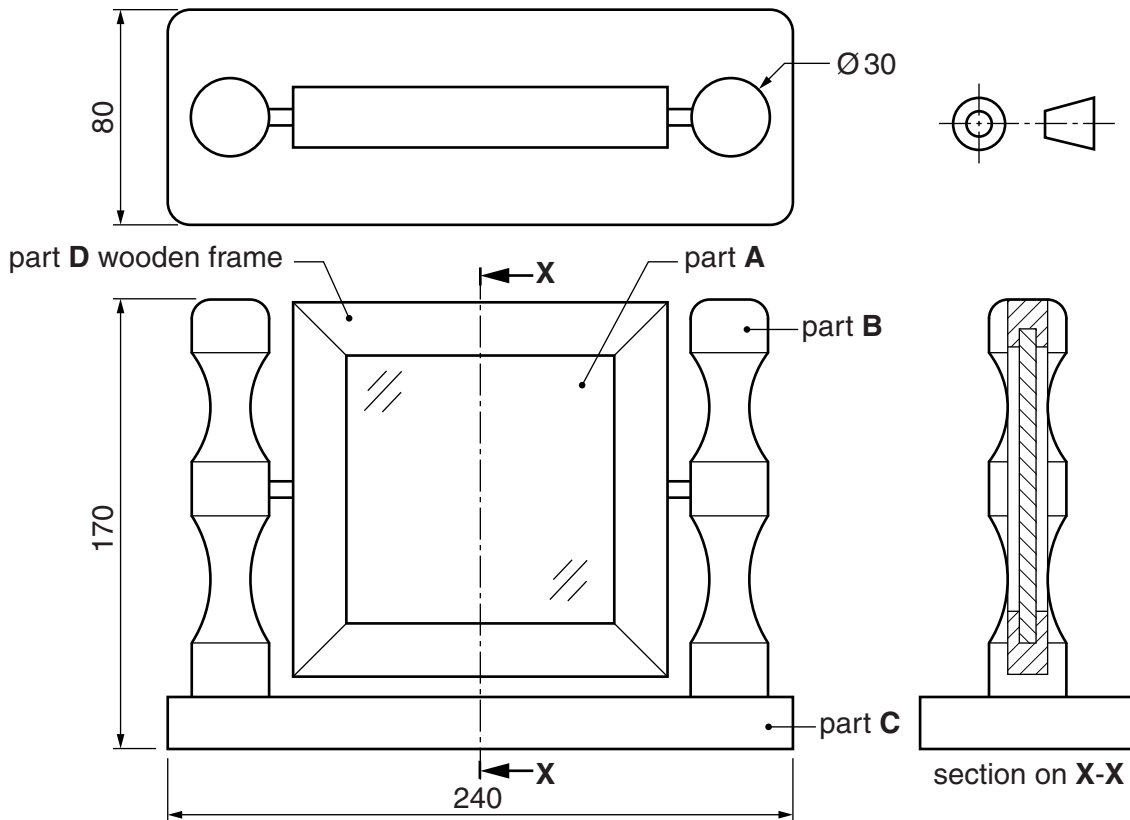

Fig. 1
- 1 Fig. 1 shows an adjustable mirror, made from pine and acrylic, which is to be constructed in a school workshop.